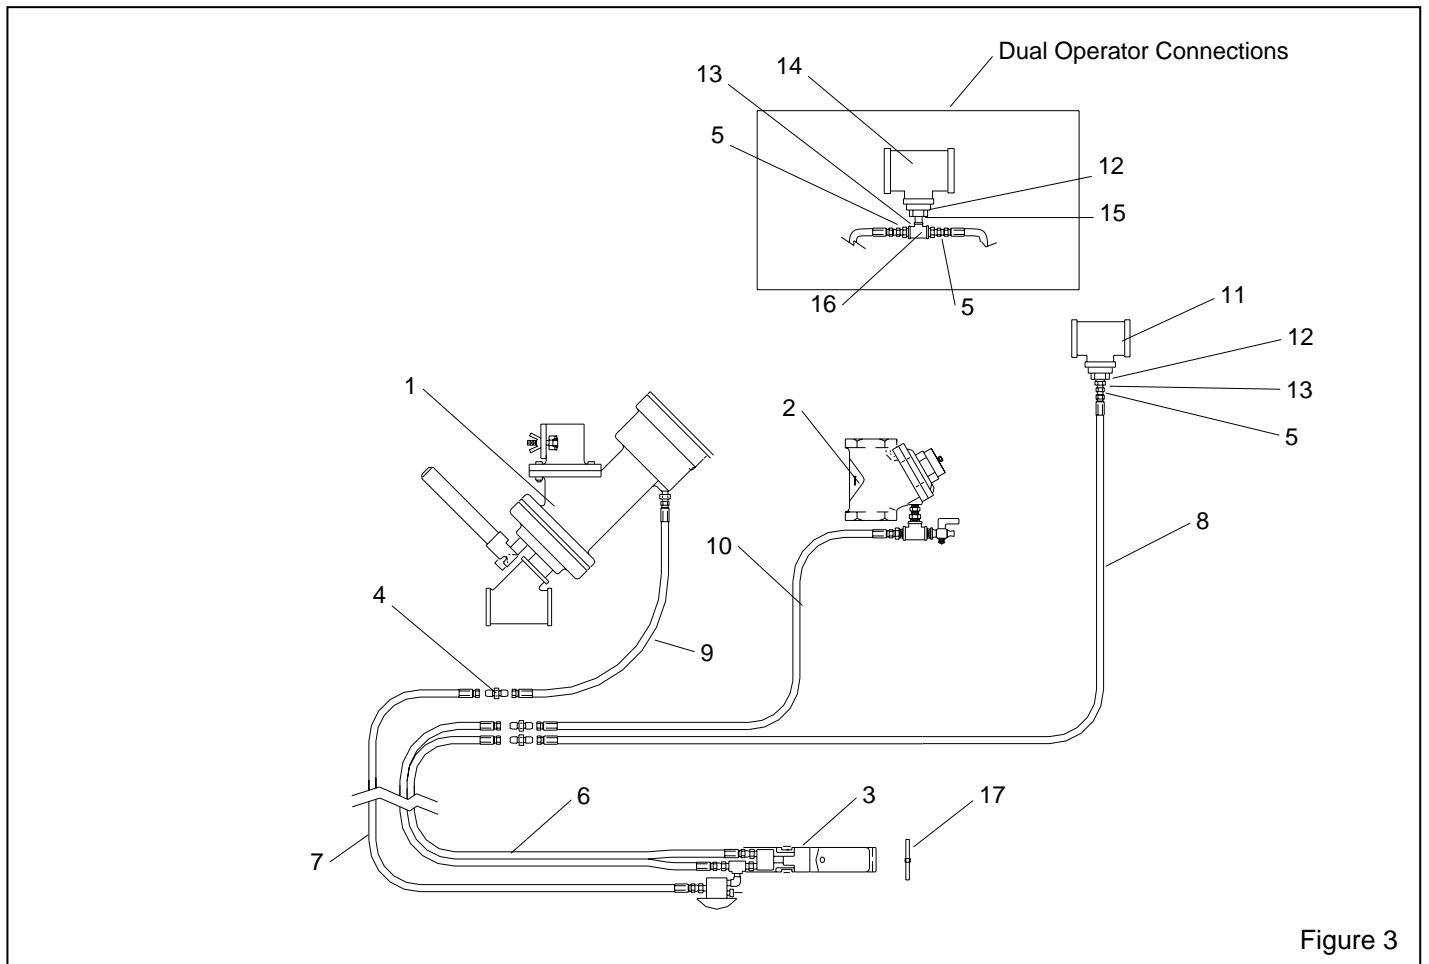

Figure 3
8.2 Sentinel Remote Control System, Figure 3